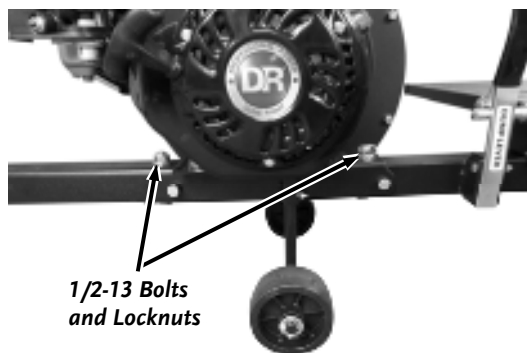

Figure 15
5. Place the two 1/2-13 X 2.75" Bolts from underneath up through the two vertical Holes and secure with 1/2-13 Locknuts using two 3/4" Wrenches (**Figure 15**).